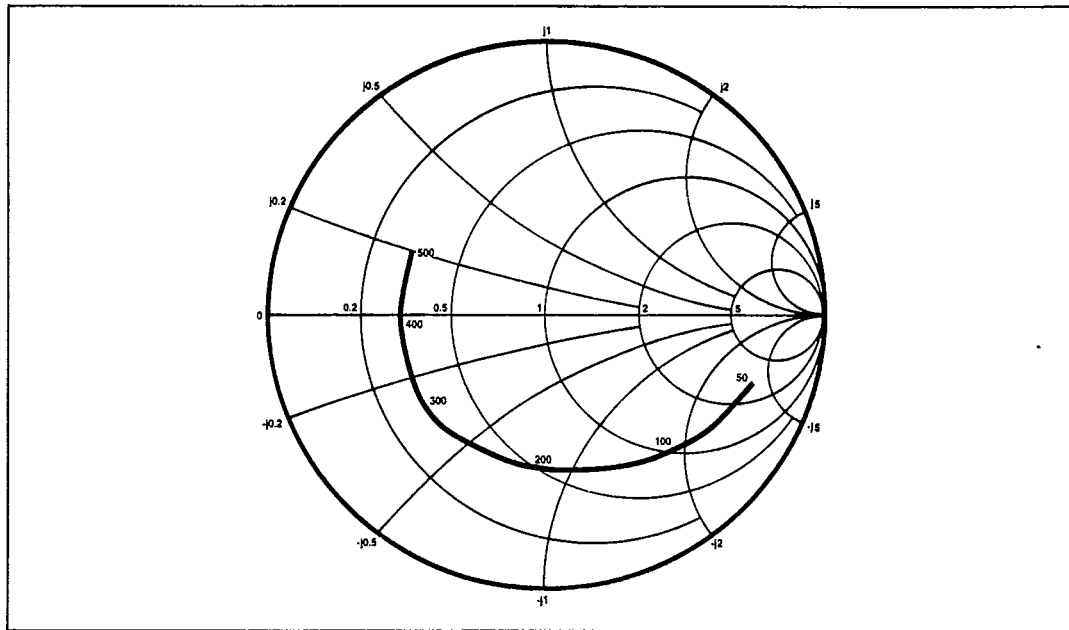

Fig.5 Typical input impedance. Test conditions: supply voltage -5.2V, ambient temperature 25°C, frequencies in MHz, impedances normalised to 50 ohms.
6. Input impedance is a function of frequency. See Fig. 5.